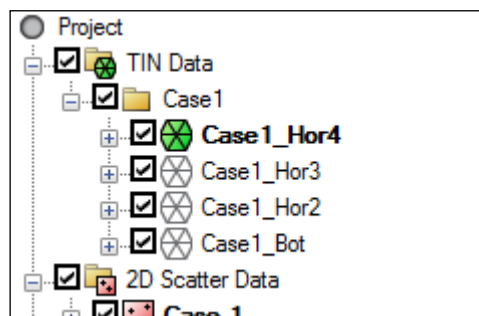

Figure 5 TINs organized into a folder
3. In the Project Explorer, drag and drop each of the four TINs into the " Case1" folder (see Figure 5).